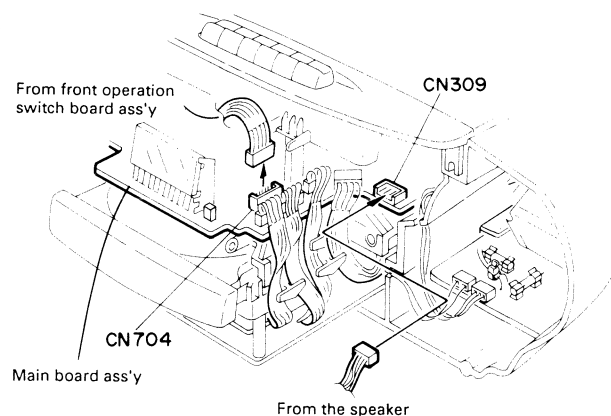

Fig. 2-2
3. Remove the speaker harness coming from the front cabinet assembly and the operation switch board harness connected to the CN704 and CN309 connectors on the main PCB (Fig. 2-2).
4. For removing the handle and top cover, extend the rear cabinet outwards (as indicated by the lateral arrows) and it is disengaged from the right and left fittings ⑥. Then, the handle can be removed in the direction of the arrow (rearwards).